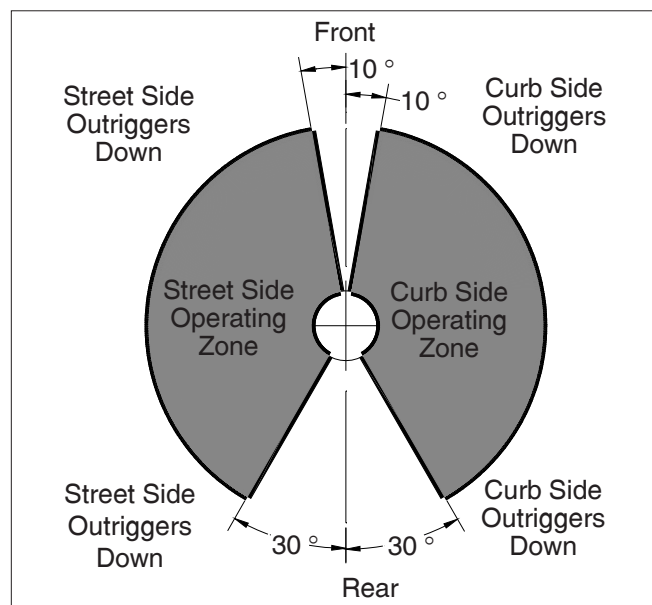

Figure 5.4 — Outrigger Operating Zone
- Provides for operation in the operating zone (refer to Figure 5.4) when the outriggers are only deployed on one side of the unit
When two outriggers are deployed on either the curb side or street side of the unit, and the turntable is within the operating zone on the same side of the unit, the boom is fully operational as long as it remains within that operating zone. A system of switches and solenoids are placed about the turntable rotation bearing to establish the operating zone control (refer to Figure 5.4). If the boom is moved to the limit of the operating zone, turntable rotation is limited to the direction that returns the turntable to the operating zone. With only two outriggers deployed, the boom can only be rotated inside the operating zone. In order to leave the operating zone and return the boom over the front of the unit to the boom rest, the boom must be fully retracted.